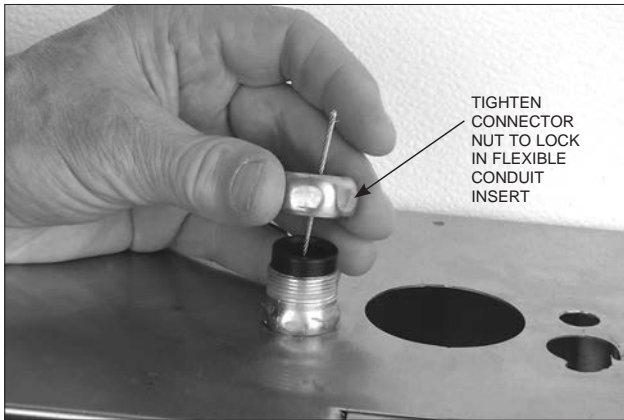

FIGURE 5-56
- 5. Tighten the nut to the connector body, locking the flexible conduit insert in place. See Figure 5-56.